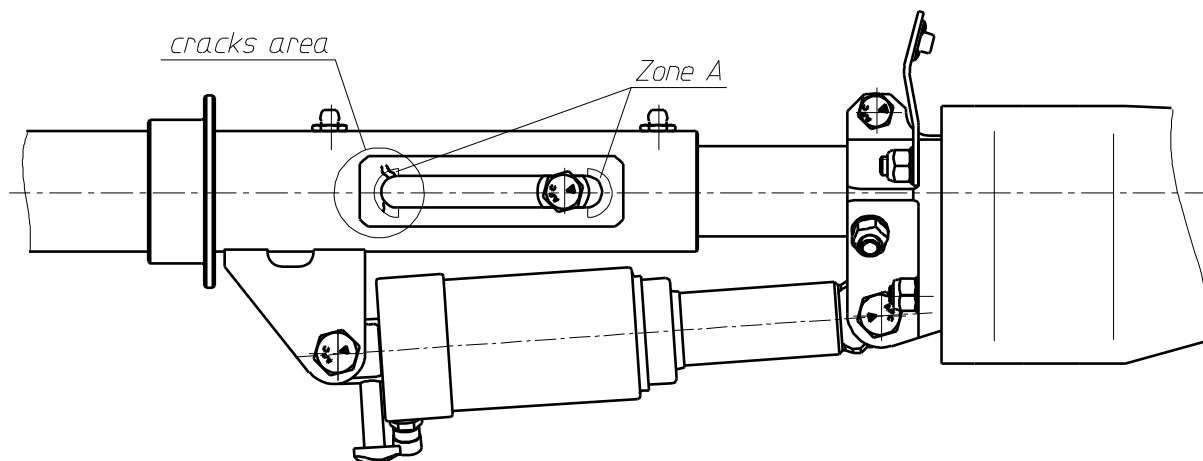

Fig. 1
3. Remove the excessive grease, inspect the nose landing gear leg for cracks in the specified area (see fig. 1).